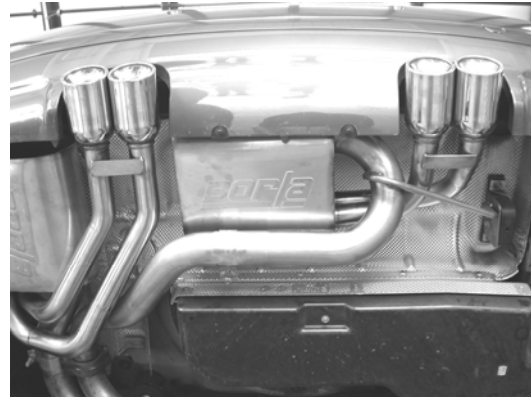

Figure 9
2. Place a clamp over the expanded end of the left muffler assembly and place into position shown in figure 9. Using the original hardware, secure the rubber brackets to the vehicle in their original position. **DO NOT** tighten the clamp.